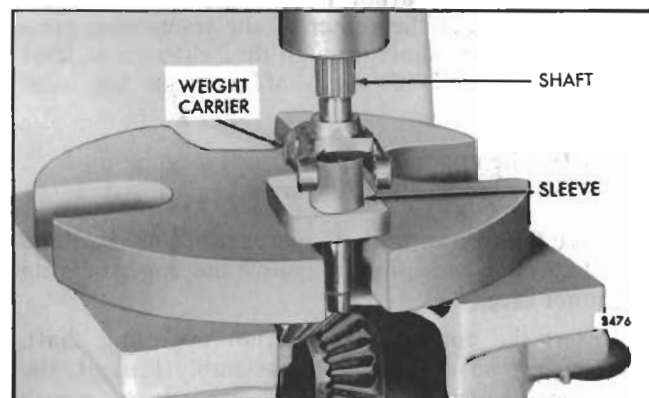

Fig. 17 - Installing Governor Weight Shaft in Weight Carrier
- a. Support the weight carrier (rear face up) on a sleeve and a steel support (with 1" hole) over an opening in the bed of an arbor press as shown in Fig. 17.